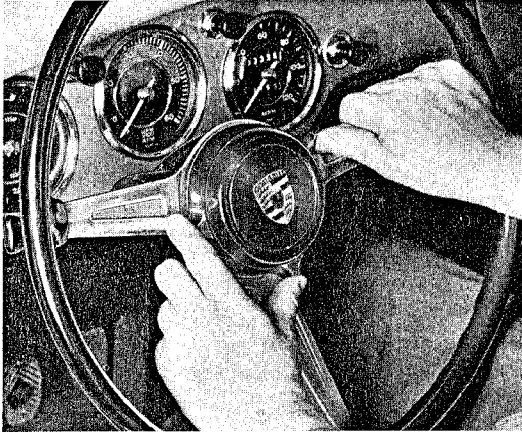

Fig. 70
2. Remove horn button. Turn at outer ring with three lugs counterclockwise, applying some force, and remove horn button (see fig. 70)